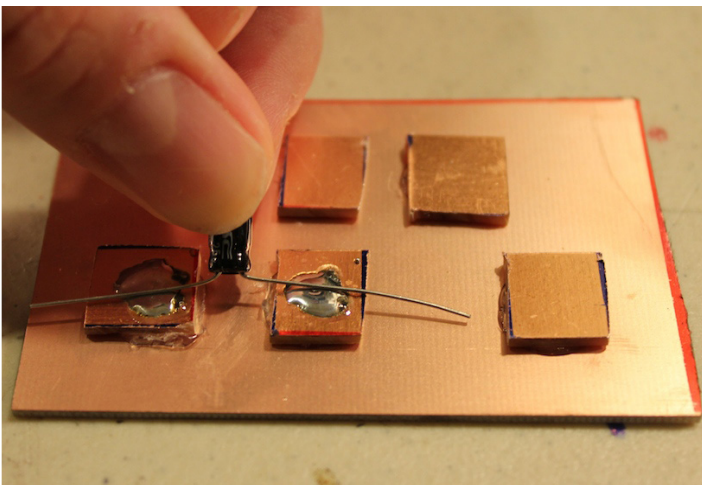

Figure 4
- Bend the legs out of the 1uf capacitor and straddle them between the two squares making sure that the leads are only touching the two small squares and not touching the ground plate. (See figure 4)